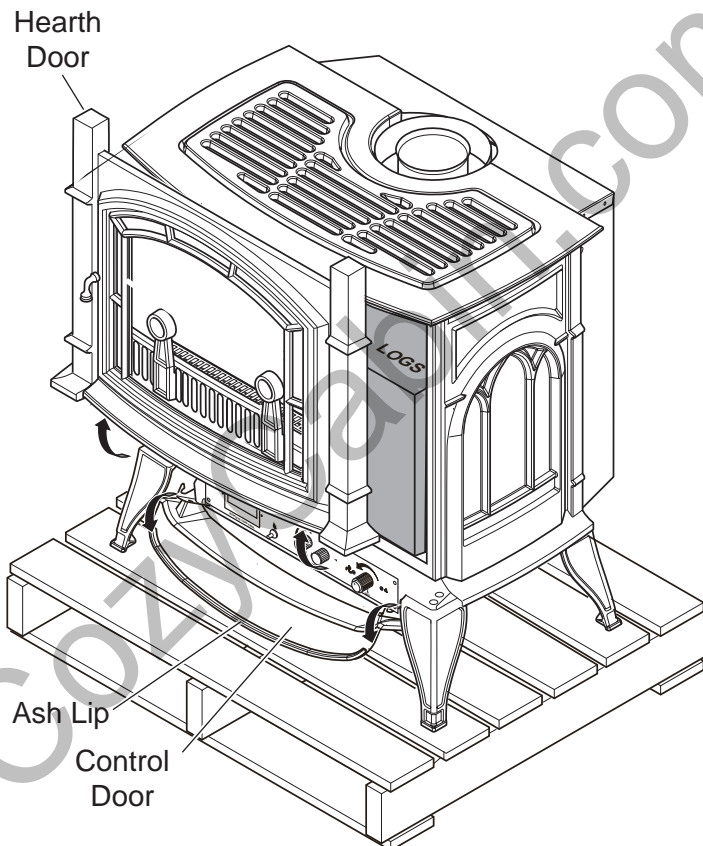

Figure 7 - Opening Control Door and Removing Hearth Door
2. Open plastic bag and slide to bottom of unit. *See Figure 7.*